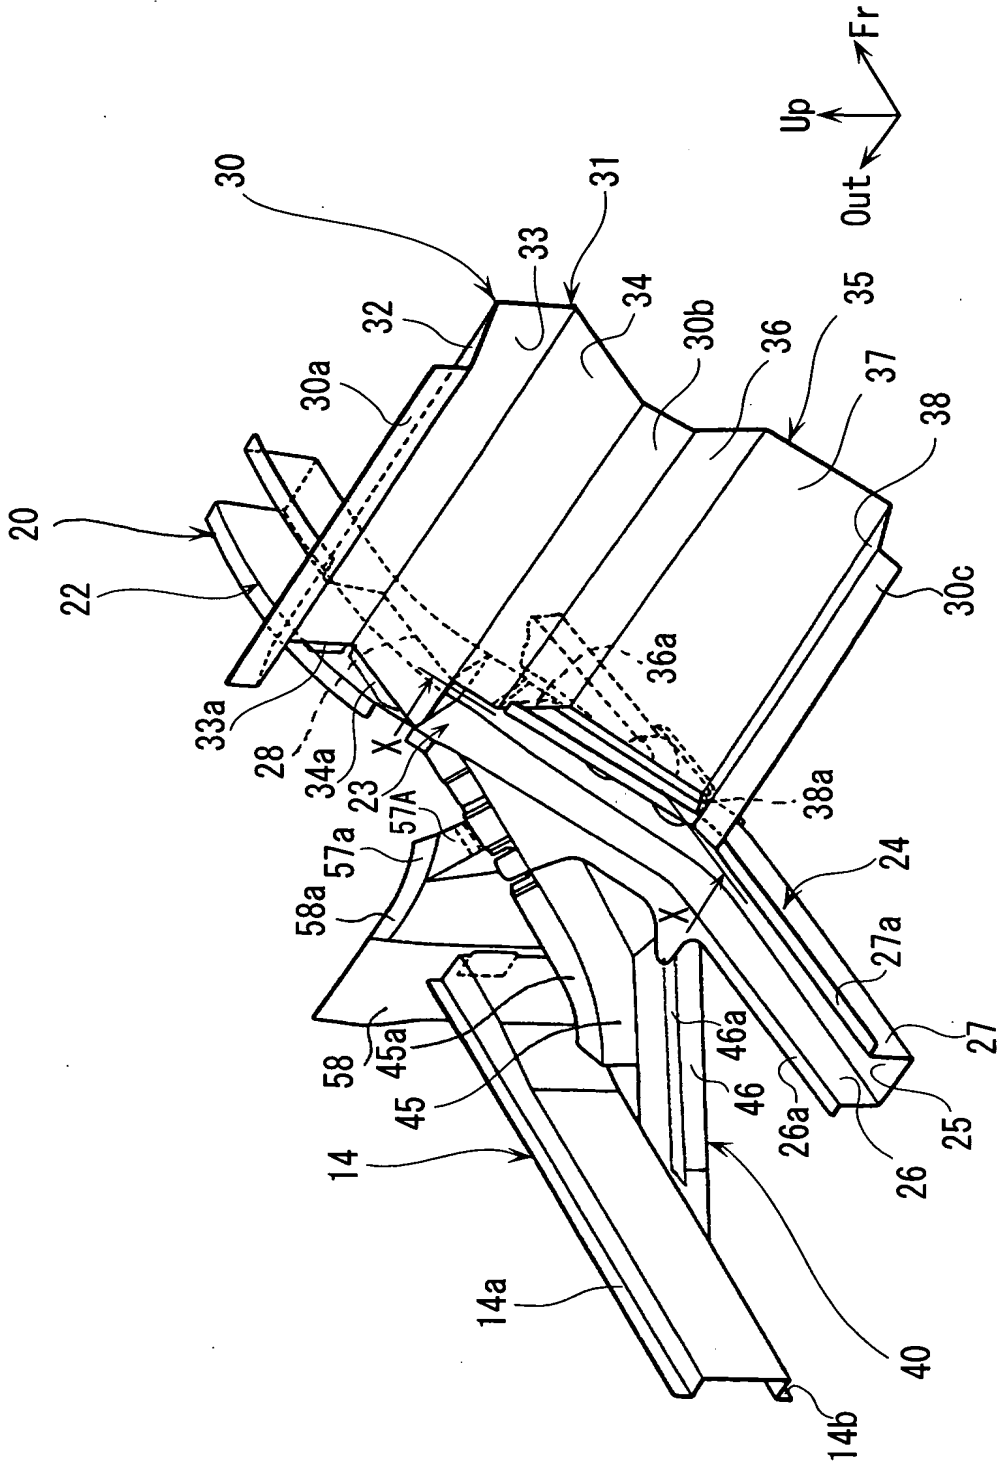

FIG. 1
FIG. 1 is a cross-sectional view of a vehicle body assembly, specifically focusing on a front door hinge mechanism. The diagram shows a door panel (22) connected to a hinge arm (23). The hinge arm is mounted to a fixed frame (70) via a complex hinge assembly (60). Key components include: upper hinge bracket (24), lower hinge bracket (36a, 36b), hinge pin (40) with ends (41, 51), hinge bushings (42A, 42B), hinge pins (52A, 52B), hinge arms (56A, 56B), and mounting plate (70) with features (71, 72, 73, 74). Various nuts and washers (61, 62, 63, 64) are used to secure the assembly. Dashed lines (30a, 30b, 30c) indicate the range of motion or specific positions of the door panel. A coordinate system at the bottom indicates 'Up' (vertical) and 'Fr' (horizontal) directions.